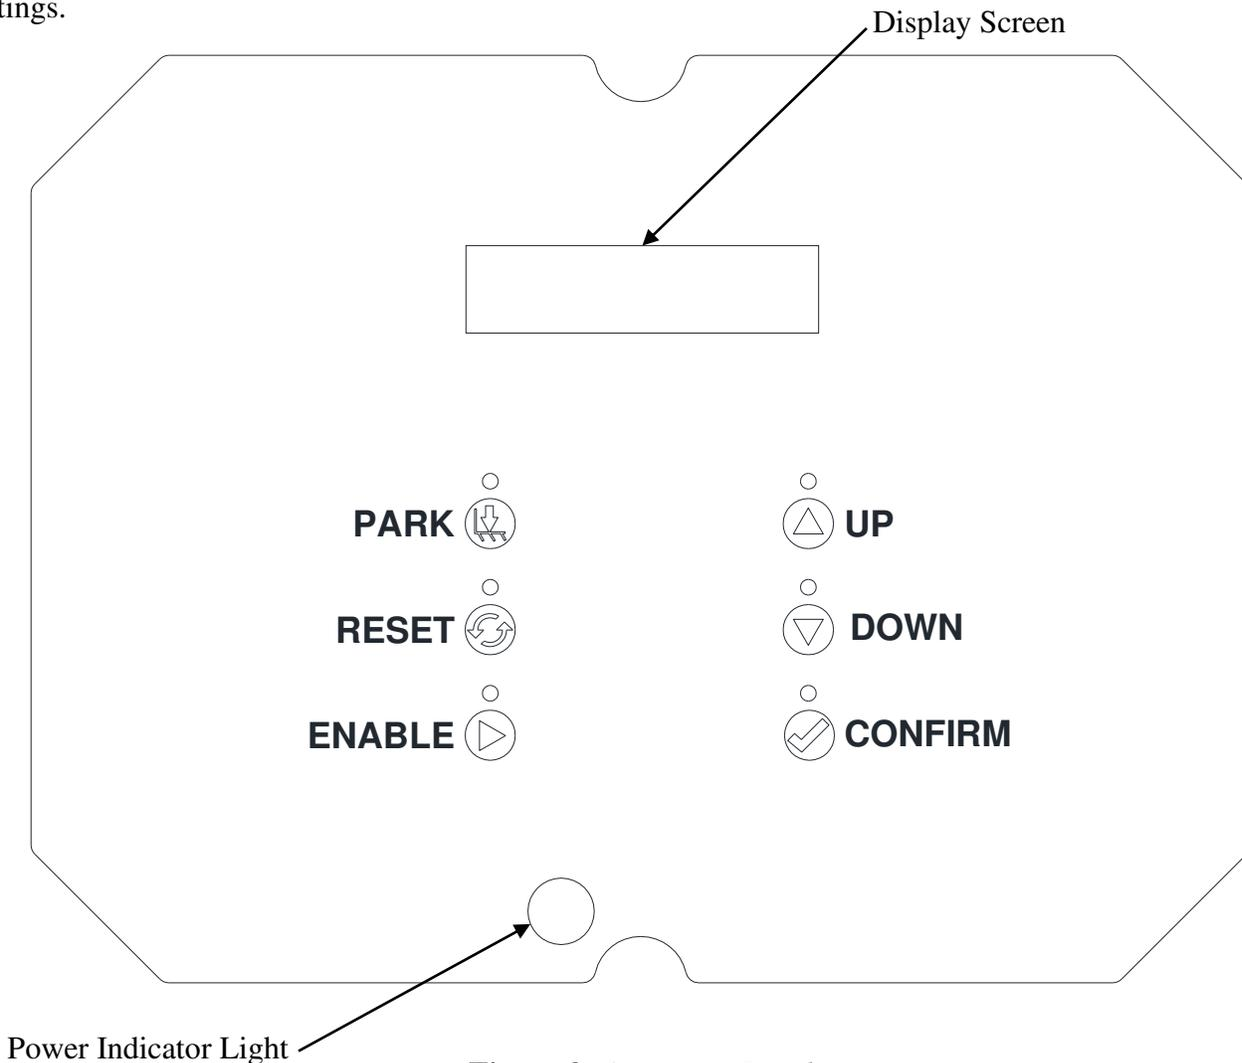

Figure 2. Operation Panel
- h. Figure 2 shows the main operation panel. There are several buttons and indicators present on this panel. For an explanation of each button and display background color on the operation panel see Table 1 and Table 2 below. After reviewing this section, proceed to one of the following sections to perform the desired function with the lift system.